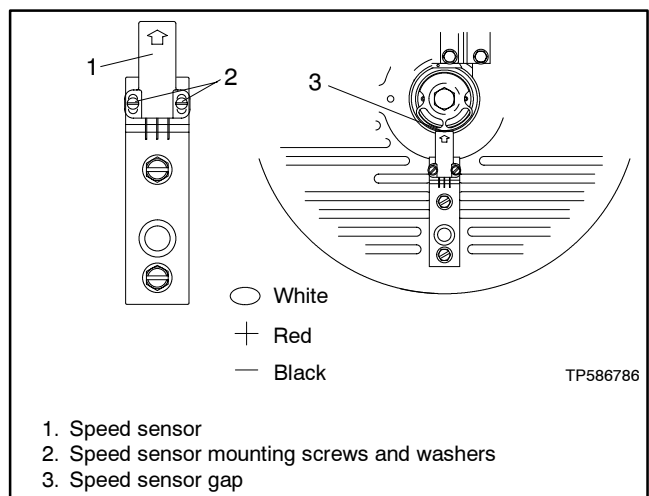

Figure 8-8 Speed Sensor Assembly
- d. Disconnect the white, red, and black leads connected to the speed sensor. See Figure 8-8.
6. If the speed sensor must be tested or replaced, remove it from the end bracket. See Figure 8-8.